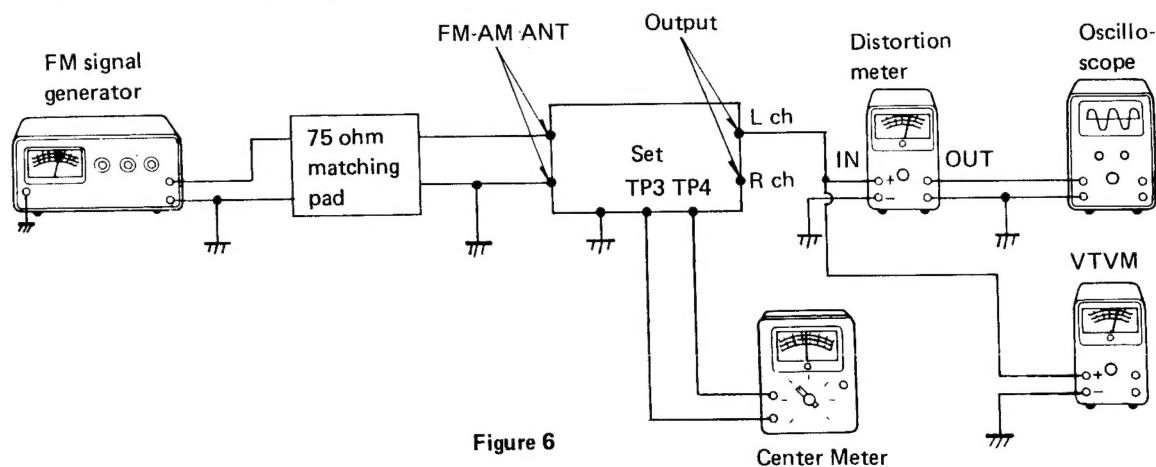

Figure 6
- (1) Connect test equipments as shown in Figure 6.
- (2) Push the FM button.
- (3) Set the MUTING switch to OFF (⬮) and IF BAND switch to WIDE (⬮).
- (4) Generator modulation . . . 1 kHz (75 kHz dev.).
- (5) Proceed as outlined in the TABLE 3. FM ALIGNMENT CHART.